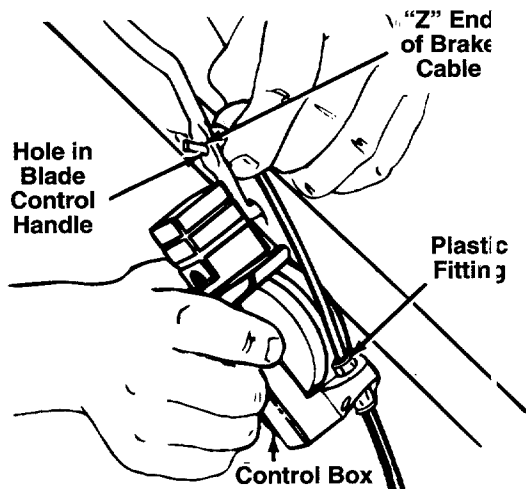

FIGURE 3.
**NOTE:** If the brake cable is not attached to the control box, insert the "Z" end of the cable into the control box as shown in figure 3. Push the plastic fitting until it locks into the control box.
4. Holding the control box near the left side of the upper handle (control box must be inside the handle), hook the "Z" end of the brake cable into the control handle from the **outside** to the **inside**. See figures 3 and 4.